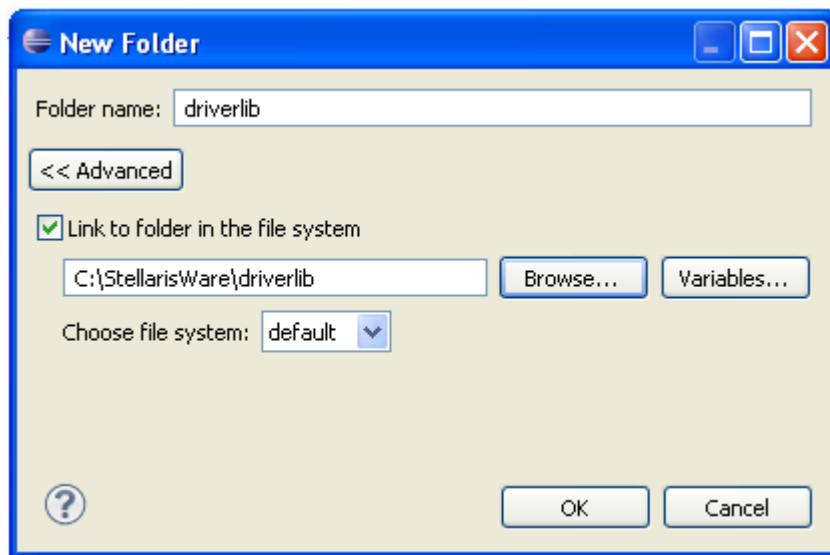

**Figure 14.16 Add Directory Path**
- Add the two directory paths as shown in figure 14.16.